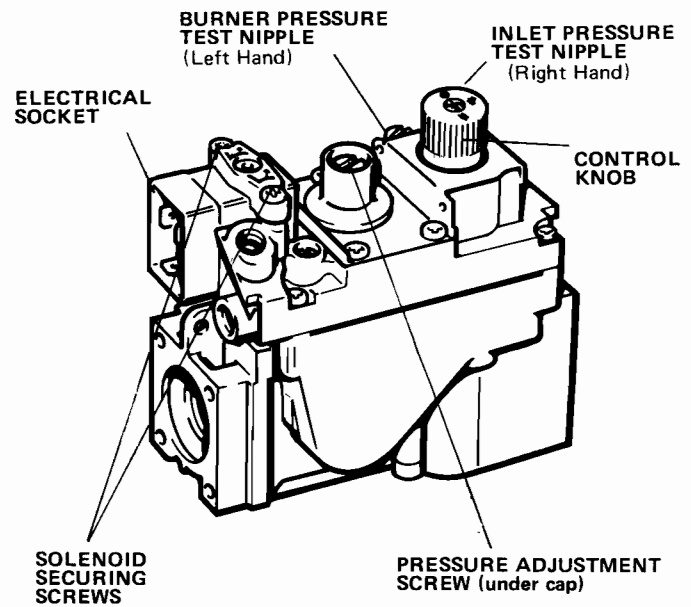

FIG. 12
1. Fit a pressure gauge to the pressure test nipple. See Fig.12.
- A. Remove sealing screw and fit a pressure gauge to the pressure test nipple in the gas valve (See Fig.12).